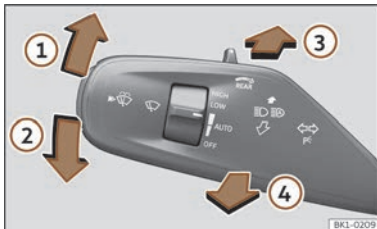

Fig. 102 Turn signal and main beam lever.
- From the neutral position, press the turn signal and main beam headlights lever forwards >>> **Fig. 102 ③**.
- **EITHER:** if main beam assist is on, pull the turn signal light and main beam headlights lever back >>> **Fig. 102 ④**.